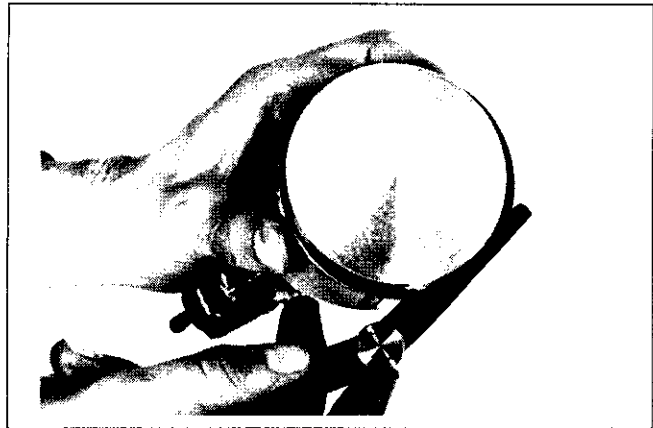

Figure 10-9. Measuring Piston Ring Side Clearance.
5. After installing the new compression (top and middle) rings on piston, check piston-to-ring side clearance. Maximum recommended side clearance is **0.040/0.105 mm (0.0016/0.0041 in.)**. If side clearance is greater than specified, a new piston **must** be used. Refer to Figure 10-9.